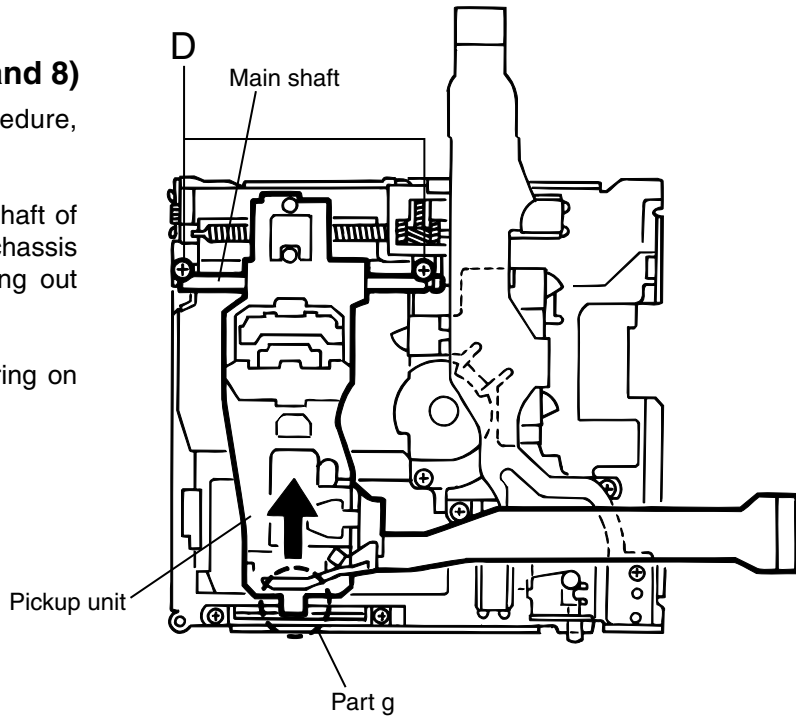

Fig. 7
- Remove the MD door assembly from the body while pulling out the flexible wires another end of which has already disconnected as shown in Fig.7.
(See Fig.7 to 10)
(See Fig.7 and 11)**
- 1. Disconnect the flexible wire from connector CN--- on the main board (See Fig.7).
(See Fig.7 and 8)